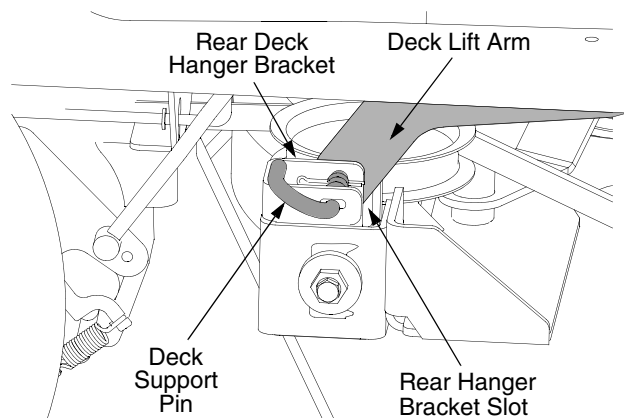

Figure 28
5. Locate the LH and RH deck support pins on each side of the deck. Pull the deck support pins outward and lock in the disengaged position to release the deck from the tractor's LH and RH deck lift arms. See Figure 28.
4. Maneuver the deck so that the slots in the two rear deck hanger brackets approximately align with the deck lift arms of the tractor. Refer to Figure 28.
6. Pull the deck support pins outward and maneuver the deck as necessary to align the holes in the deck lift arm with the pins. Refer to Figure 28.